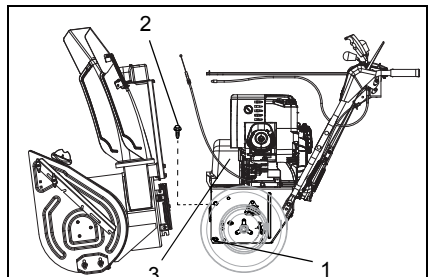

Figure 32
(Figure 32)
2. Loosen hardware securing belt cover to unit (Figure 32).
9. Remove hex bolts securing housing to frame (one on each side). Tip housing and frame apart on pivot pins (Figure 32).
1. Place new attachment belts onto attachment pulley (Figure 32).